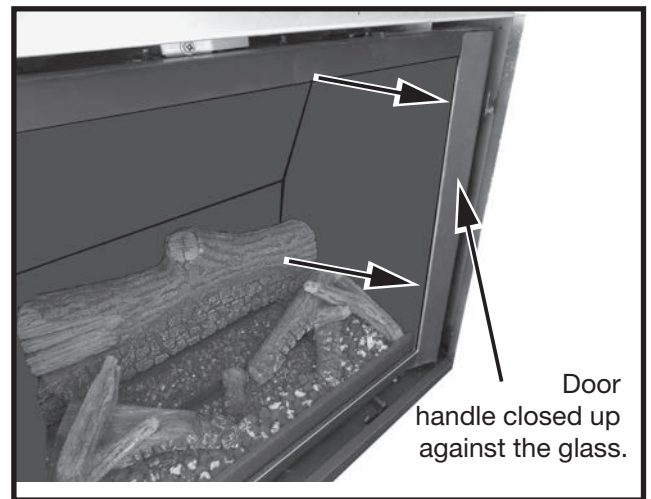

Figure 103: Glass door fully closed.
4. **The handles will close fully against the surface of the glass door (Figure 103)**